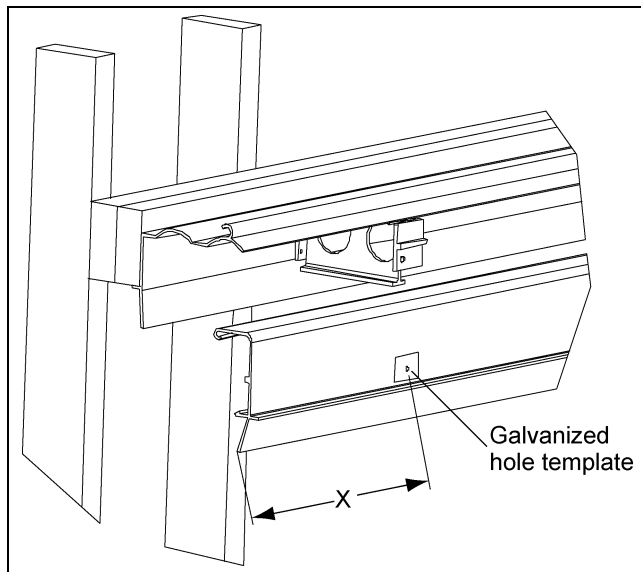
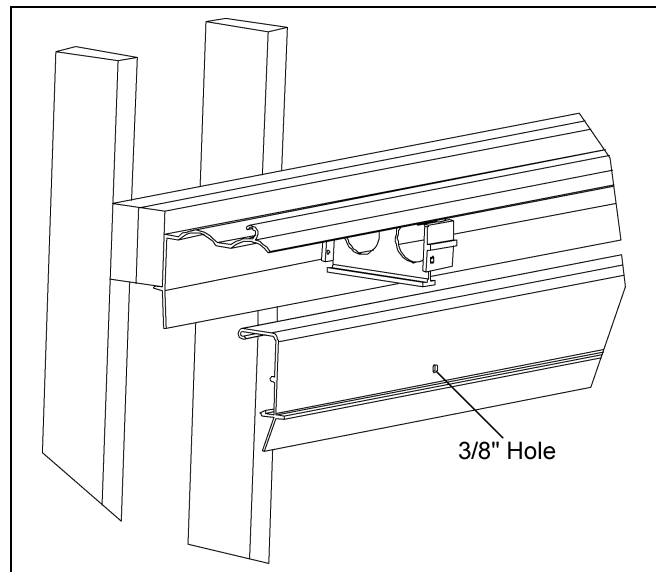

Figure 4G
Figure 4H
**NOTE:** For safety, drilling should be done on a flat, level surface. (See Figure 4G and Figure 4H.)